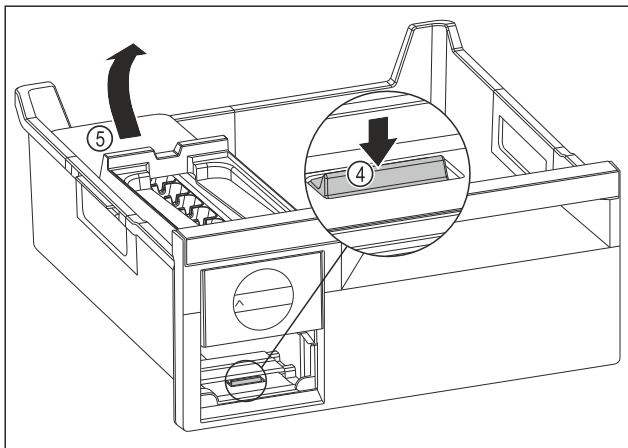

Fig. 76
- ▶ Removing the EasyTwist-Ice body: Use your finger to push the tab Fig. 76 (4) down and use your other hand to lift the EasyTwist-Ice body Fig. 76 (5) from behind at the same time.